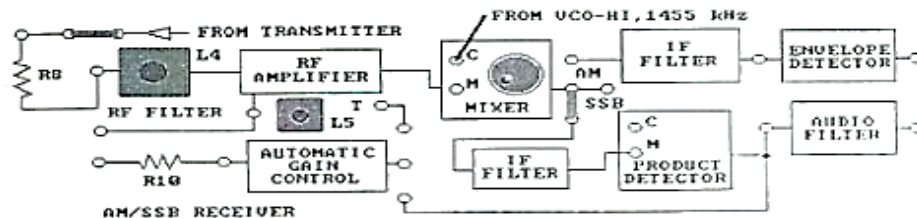

Figure 5-13.
29. Connect the output of the 1455 kHz VCO-HI circuit block, which also connects to the transmitter's mixer, to the local oscillator input (C) of the mixer. Connect the MIXER to the IF FILTER with a two-post connector, as shown in Figure 5-13.